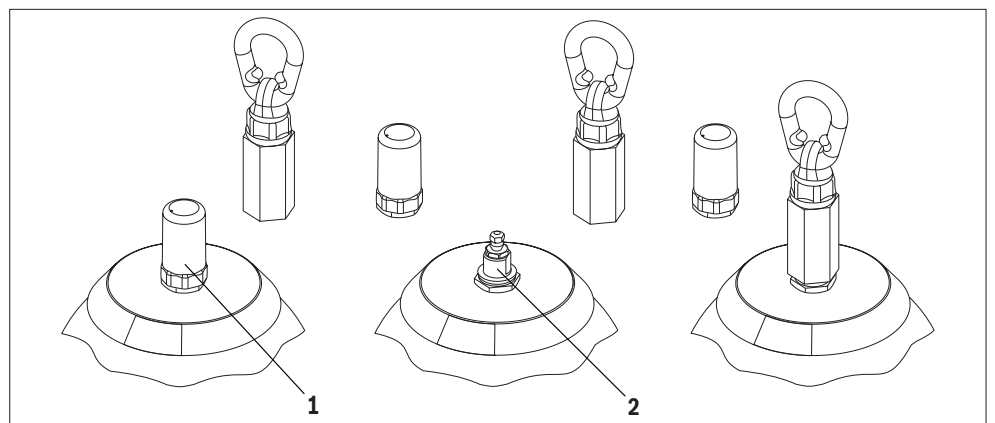

Fig. 6: Connecting a lifting device
- 1.** Screw a lifting device onto the thread 7/8" 14 UNF-1A, see item 2 in Fig. 6. To do this, take off the gas valve cover cap, see item 1 in Fig. 6.